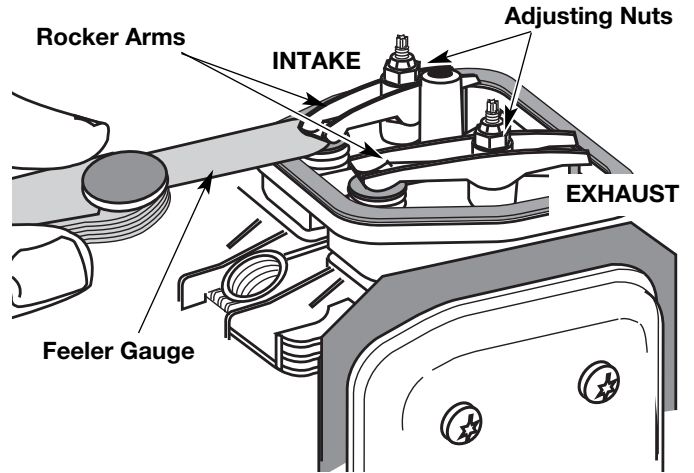

Fig. 66
- Slide the feeler gauge between the rocker arm and the valve return spring. Measure the clearance between the valve stem and rocker arm (Fig. 66). Measure both the intake and exhaust valves.